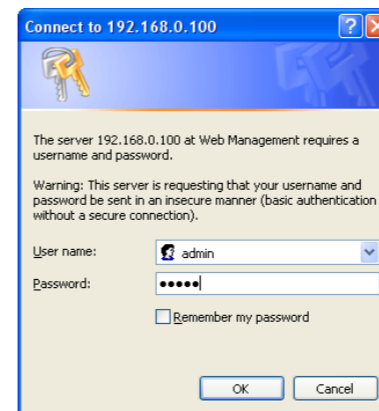

Figure 4-2: Login Screen
2. When the following dialog box appears, please enter the default user name “admin” and password “admin” (or the password you have changed before). The login screen in Figure 4-2 appears.